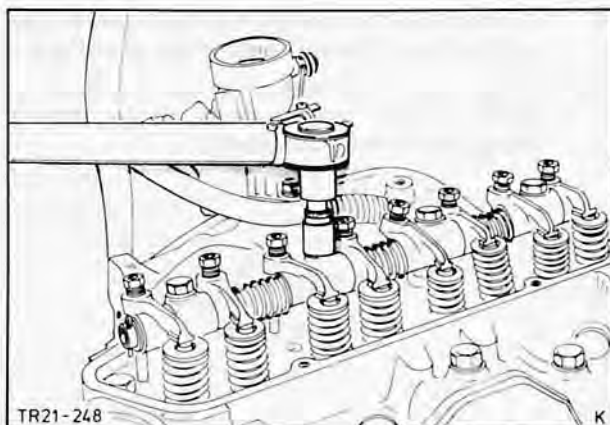

Fig. 130. Torque rocker shaft bolts as specified in Technical Data
10. Lubricate both ends of push rods and place them in push rod sockets. Fit rocker shaft, guiding rocker arm adjusting screws into push rod sockets. Insert rocker shaft bolts and torque them as specified in Technical Data, Fig. 130.